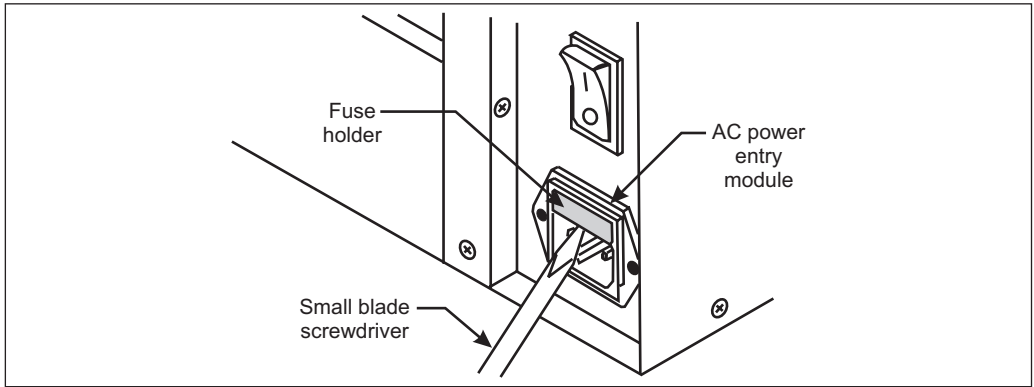

Figure 28
1. Turn off the printer power and unplug the power cord from the back of the printer. See Figure 28.